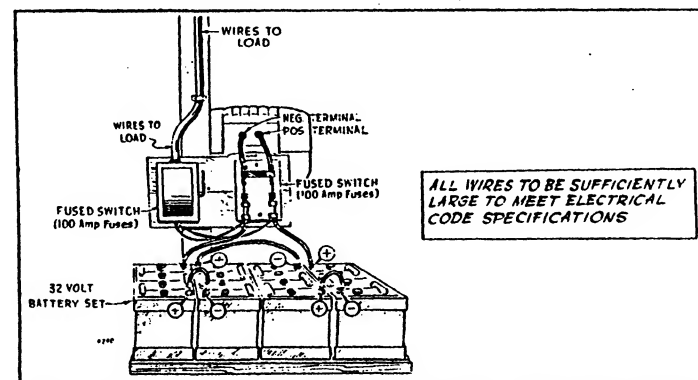

FIG. 17 - BATTERY CHARGING LOAD CONNECTIONS
CONNECTING THE 32-VOLT DC LOAD - DUAL PURPOSE PLANTS ONLY. - Make connections as shown in Fig. 17. Although these plants are basically ac plants, they produce up to 750 watts of 32 volt, direct current for charging 32-volt batteries. The 32-volt dc load is to be taken from the battery.
Connect the 32-volt dc load directly to the battery switch as shown in Fig. 17. Connect the "hot" side of the main line wire to the "Hot" side of the battery switch. Connect the grounded side of the main
- A. 32-VOLT BATTERY CHARGING PLANTS.** - Make load connections as shown in Fig. 17. The main line should be protected by a main switch fused with 100 ampere fuses. Be sure the wire used between the battery switch and the main switch is large enough to safely carry the output of the battery plus the rated capacity of the generator. Smaller wire may be used for branch circuits. The size depends upon the amount and kind of load. Electrical appliances to be operated from this unit must be for operation on 32-volt dc systems.